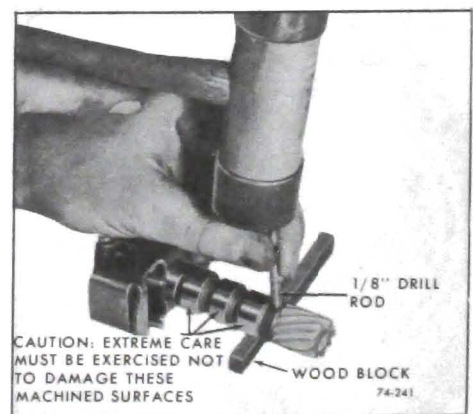

Figure 74-241
1. Support governor sleeve on wood block as shown in Figure 74-241, remove roll pin with a 1/8" drill rod.